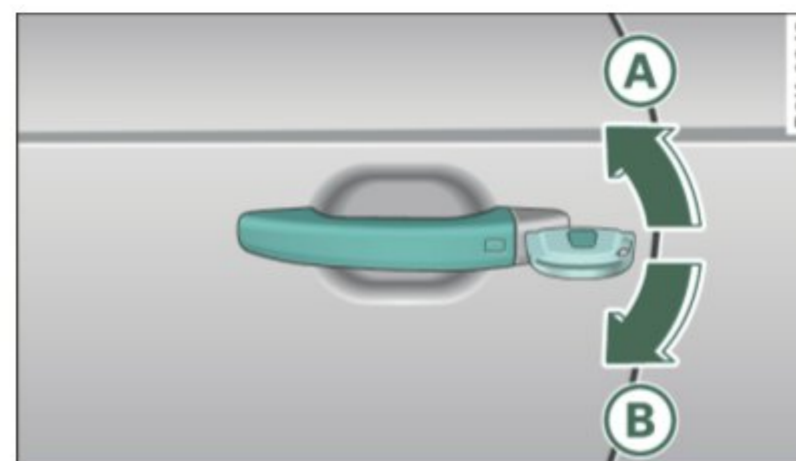

Fig. 38 Key turns for opening and closing
- Turn the mechanical key to position **A** ⇒ fig. 38.